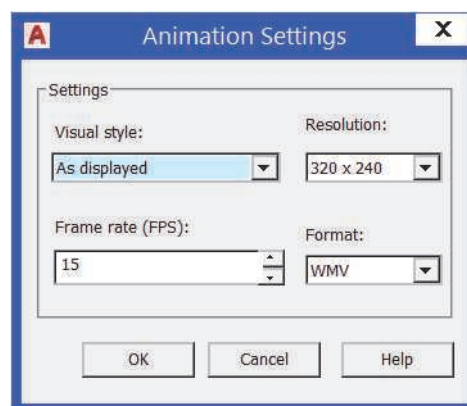

Figure 8–49
- You can control the animation process in the Animation Settings dialog box, as shown in Figure 8–49. You can set the *Visual Style*, *Resolution*, *Frame rate*, and *Format* for the animation. In the *Visualize* tab>Animations panel, click  (Save Animation). In the Save As dialog box, click **Animation settings**.